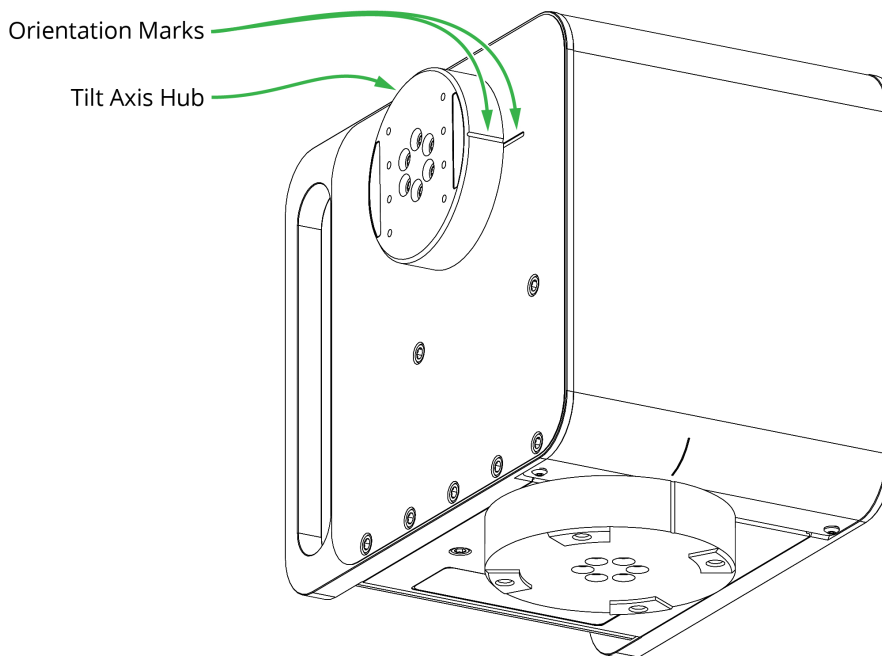

Figure 7 - X300, showing Tilt Axis Orientation Marks
1. Find the orientation mark on the **Tilt** axis hub and note whether it is aligned with a similar mark pointing towards the front of the head (**Figure 7**). The front is the side that is opposite from the connection panel.